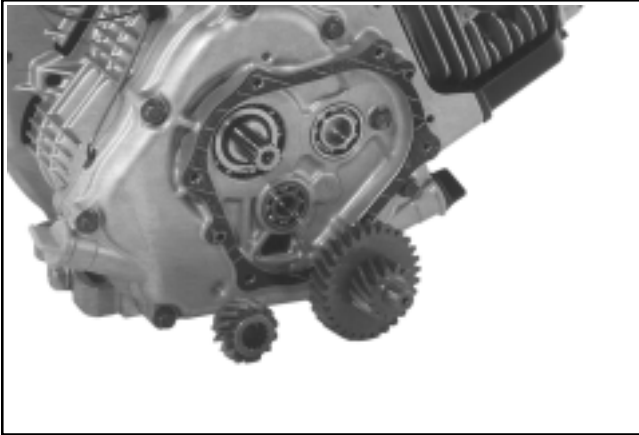

Figure 9-72. Removing Counter Gear and Crank Gear.
5. Remove the counter gear from the closure plate. Remove the screw and washer securing the crank gear and slide the gear off of the crankshaft splines. See Figure 9-72.